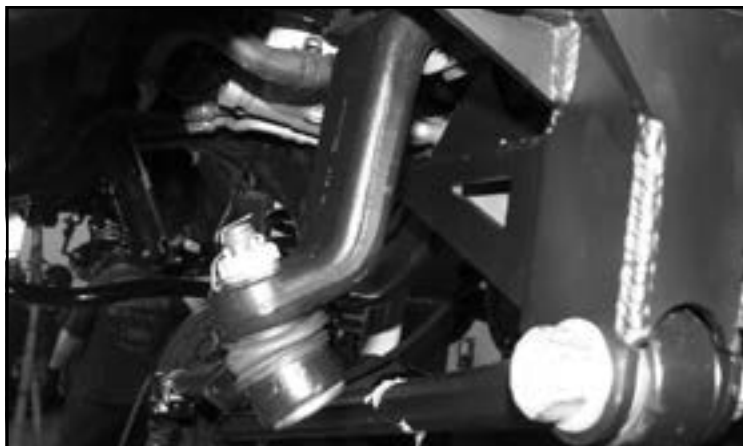

FIGURE 25 - STEP 26
26. Reinstall the track bar to the new frame bracket. Torque to 406 ft-lbs. Install the drag link to the new Fabtech pitman arm using the factory hardware and the new supplied cotter pin. Torque to 129 ft-lbs. **NOTE: The drag link will need to be rotated 180 degrees and installed from the bottom side of the pitman arm. SEE FIGURE 25**